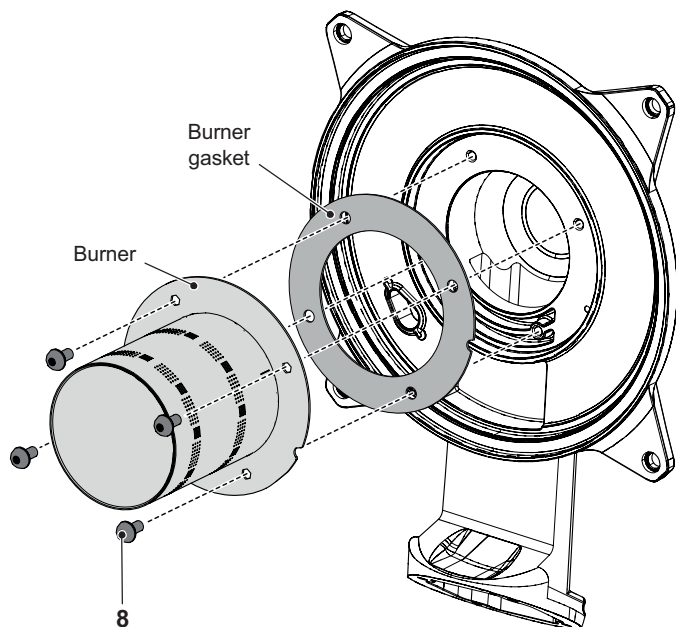

Figure 17.5
- 5 Unscrew the screws "8" (Figure 17.5) and remove the burner.
- 6 Assemble the burner carrying out the removal operation in reverse order. Ensure the burner and gasket are correctly located by aligning all fixing holes (Figure 17.5).